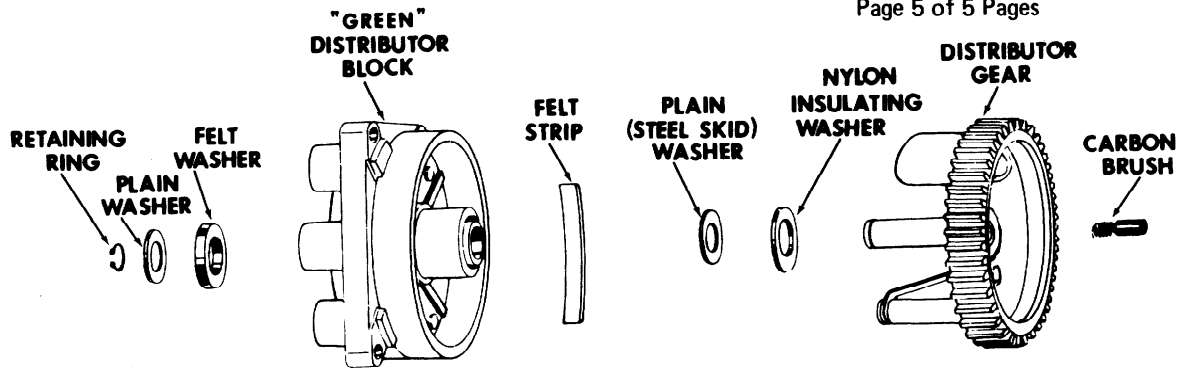

Figure 6. Distributor Gear/Block Exploded View
8. For reassembly, reference figure 6 and proceed as follows: